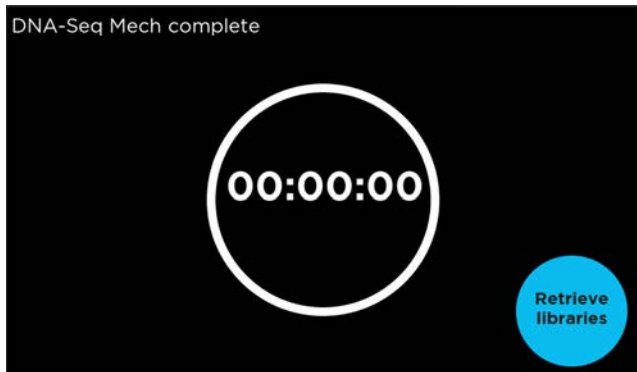

Figure 15. Run complete screen.
1. When a run completes, “DNA-Seq Mech complete” will be displayed (Figure 15). Touch the “Retrieve libraries” button when ready to retrieve your completed libraries.